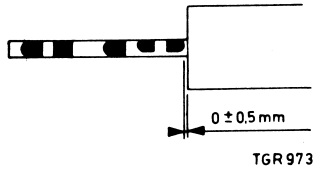

Fig. 24
Depress recording push-button. Set the apparatus to position "Stereo". The two switches should then be set as indicated in Fig. 24. Adjust by bending bracket pos. 153, see Fig. 27.